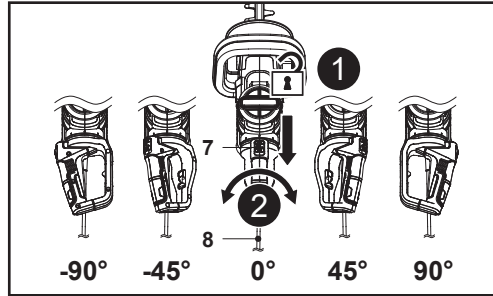

Fig. 5
1. Pull back the rotary handle lock button (7) and hold it in position (Fig. 5, step 1).
2. Rotate the rear handle (8) to the left or right slightly (Fig. 5, step 2).
3. Release the rotary handle lock button (7) and keep moving the rear handle (8) until it locks in place with an audible click.